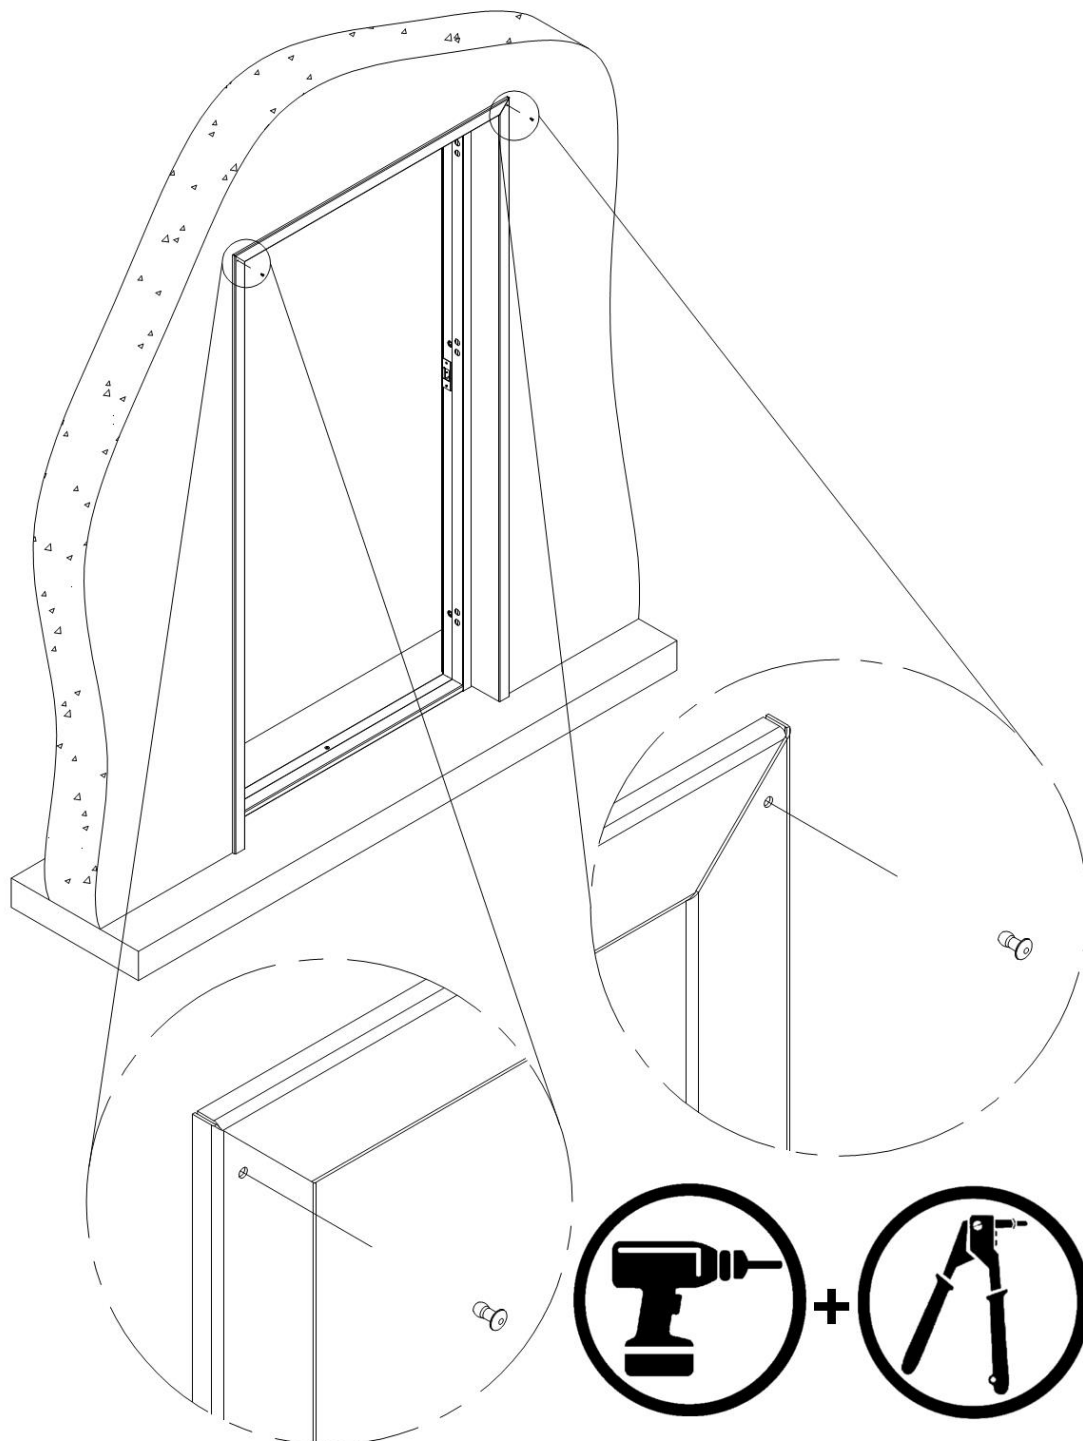

Figure 2.6 Fixing counter frame corners.
9. Fix the corners of the counter frame. Drill $\text{Ø}3,2$ mm holes in the top counter frame element through already existing holes in the side elements. Insert a poprivet. (Figure 2.6) If necessary, the poprivets may be substituted with self-drilling screws. In that case pre drilling is not necessary.